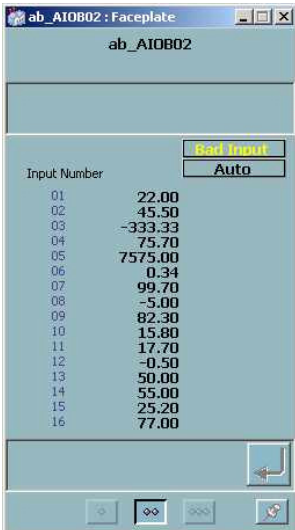

Figure 209. AIOB Module
**Analog Input Output Block (AIOB).** The Analog Input Output Block module faceplate represents a group of 16 analog values sourced from a CIO board. Figure 209 shows the layout of the AIOB normal sized faceplate and its attributes.